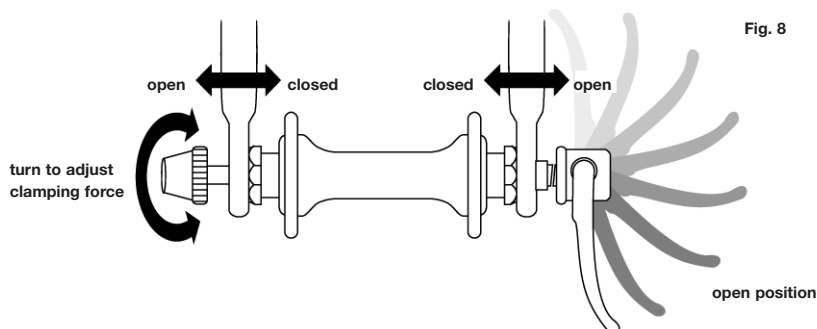

Fig. 8
- 3 Each time, before you ride the bike, check that the wheel is securely clamped (see fig. 8).
A wheel quick release uses a cam action to clamp the bike's wheel in place (see fig. 8). Because of its adjustable nature, it is critical that you understand how it works, how to use it properly, and how much force you need to apply to secure the wheel.
- 3 Holding the quick-release lever in the OPEN position with your right hand, tighten the tension adjusting nut with your left hand until it is finger tight against the fork dropout (fig. 8).
- 4 While pushing the wheel firmly to the top of the slots in the fork dropouts, and at the same time centering the wheel rim in the fork, move the quick-release lever upwards and swing it into the CLOSED position (fig. 8 & 10a). The lever should now be parallel to the fork blade and curved toward the wheel. To apply enough clamping force, you should have to wrap your fingers around the fork blade for leverage, and the lever should leave a clear imprint in the palm of your hand.
- 3 Move the quick-release lever to the OPEN position (see fig. 8). The lever should be on the side of the wheel opposite the derailleur and freewheel sprockets.
Some bikes are equipped with a quick-release seat post binder. The seat post quick-release binder works exactly like the wheel quick-release (Section 4.A.1) While a quick release looks like a long bolt with a lever on one end and a nut on the other, the quick release uses a cam action to firmly clamp the seat post (see fig. 8).